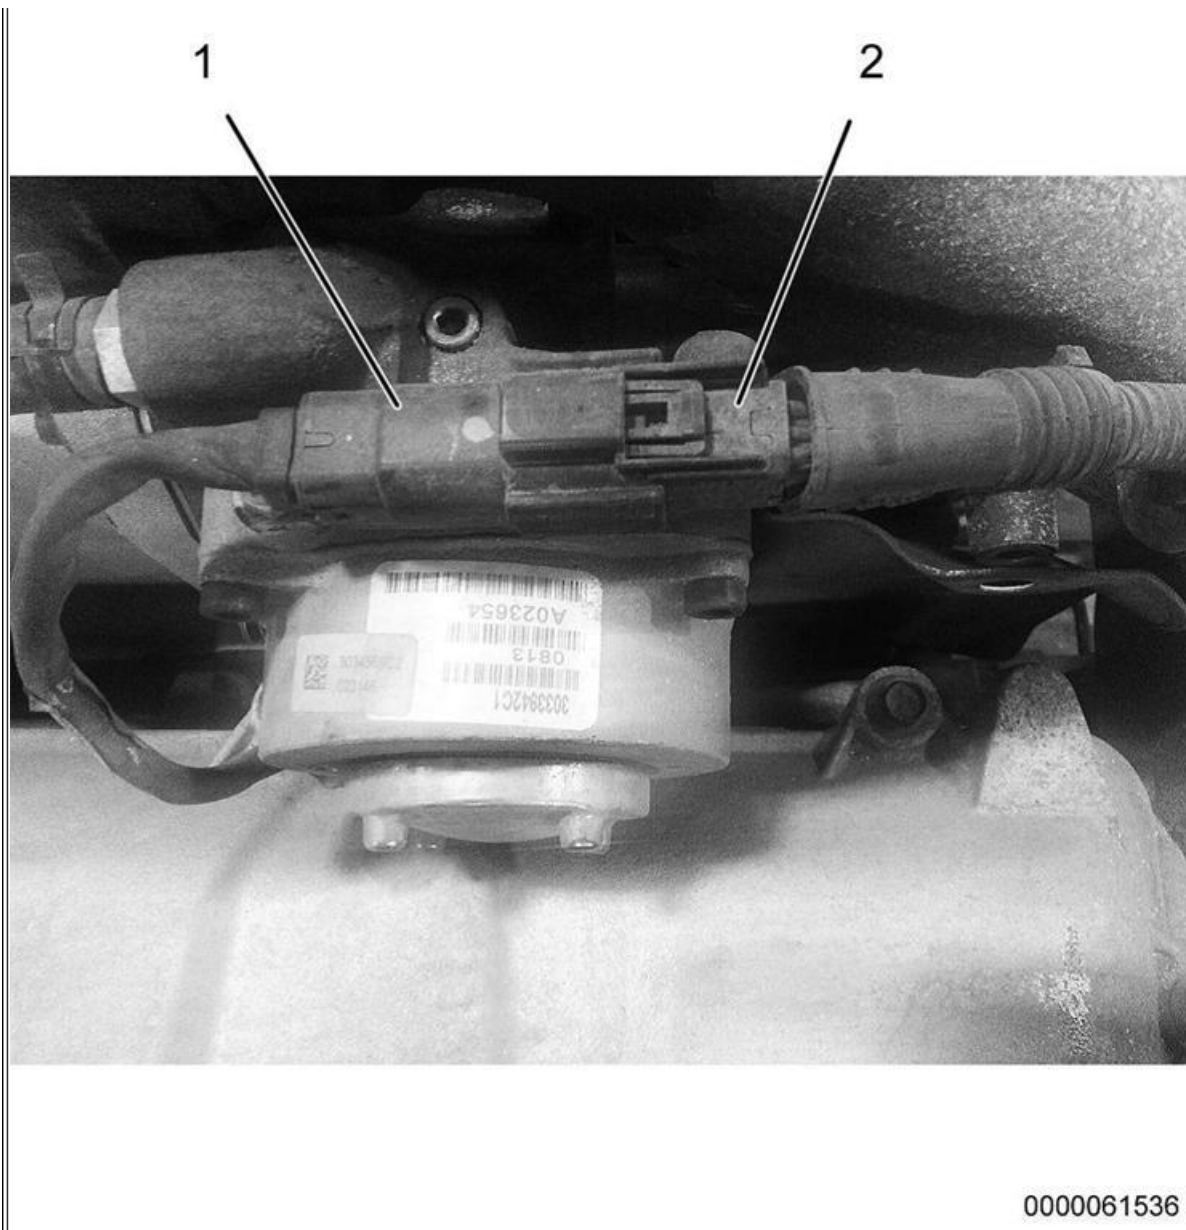

Figure 15: Exhaust Gas Recirculation (EGR) Valve
43. Connect connector (Figure 15, Item 2) to EGR valve connector (Figure 15, Item 1).